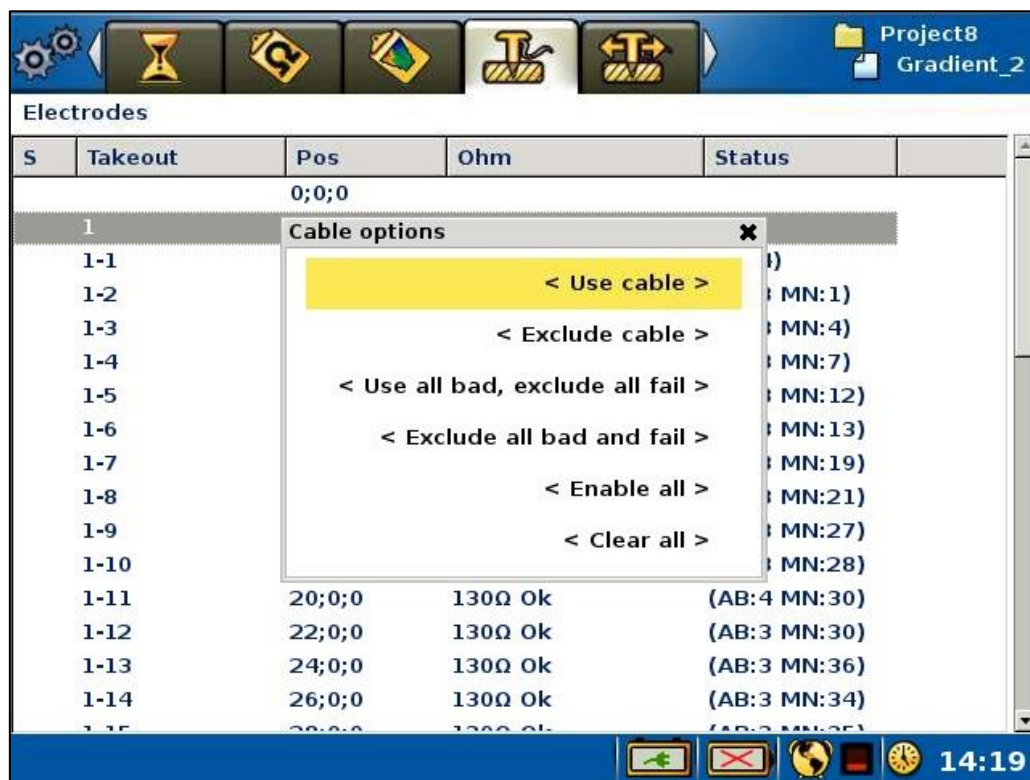

Figure 48 Exclude cable pop-up menu
There may be occasions where there is not enough space to use all cables or electrodes within a spread, and it is necessary to use just a subset of the spread. In these instances it is possible to exclude using the "Measure/Electrodes" Page (Figure 48).
- Highlight the <Exclude cable> / <Exclude electrode> *Menu Item* (Figure 48)